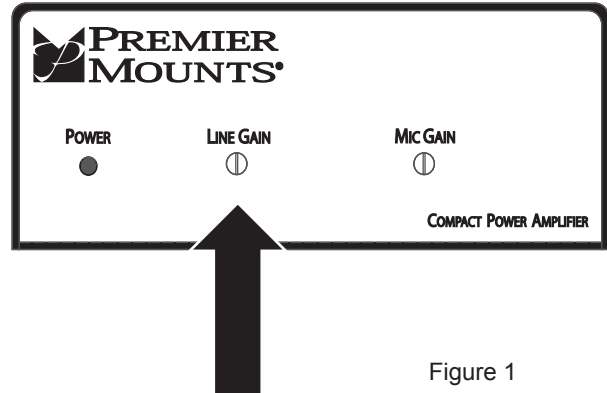

Figure 1
- 3 Use the screwdriver to gently turn the Mic Gain control on the amp counter-clockwise to the end (Figure 1).